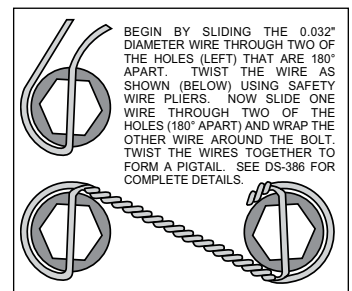

Figure 3. Safety Wire Diagram
- Install wheel studs (6) into the hub (5), Photo 3. Torque to 77 ft-lb.
- Pack the large inner bearing cone (7) with high temperature disc brake bearing grease (available from your local auto parts store) and install into the backside of the hub (5), Photo 4.
- Install the grease seal (8) by pressing into the backside of the hub (5), flush with the end of the hub, Photo 5.
- Pack the small outer bearing cone (13) with high temperature disc brake bearing grease and install into hub (5). Slide the hub assembly onto the spindle. Secure using spindle washer (14) and spindle nut (15), Photo 6. Adjust bearings per OEM specifications. Install a new cotter pin (16).
- Press the dust cap (17) into the hub (5). **NOTE:** Do not hammer center of cap. Install using outer flange only.
- Orient the rotor (9) and the hat (10) as shown in Figure 1 and Photo 7. Attach rotor to hat using bolts (11) and washers (12). Apply red *Loctite*® 271 to the bolt threads and torque to 155 **in-lb** using a criss-cross pattern. For an added measure of security, the bolts may be safety wired using standard 0.032 inch diameter stainless steel safety wire as shown in Figure 3. Refer to Wilwood's data sheet DS-386 (available at www.wilwood.com/Pdf/DataSheets/ds386.pdf) for complete safety wire installation instructions.
- Slide the hat/rotor assembly (10 and 9) onto the hub (5), Photo 8. **NOTE:** The hat must fit flush against the hub face or excessive rotor run out may result. Install three lug nuts (finger tight) to keep the hat/rotor assembly in place while continuing with the installation, Photo 8.
- **NOTE:** This kit contains distinct right and left hand calipers that must be mounted in a specific direction, as described below. Lubricate the caliper mounting studs (21) with lightweight oil.